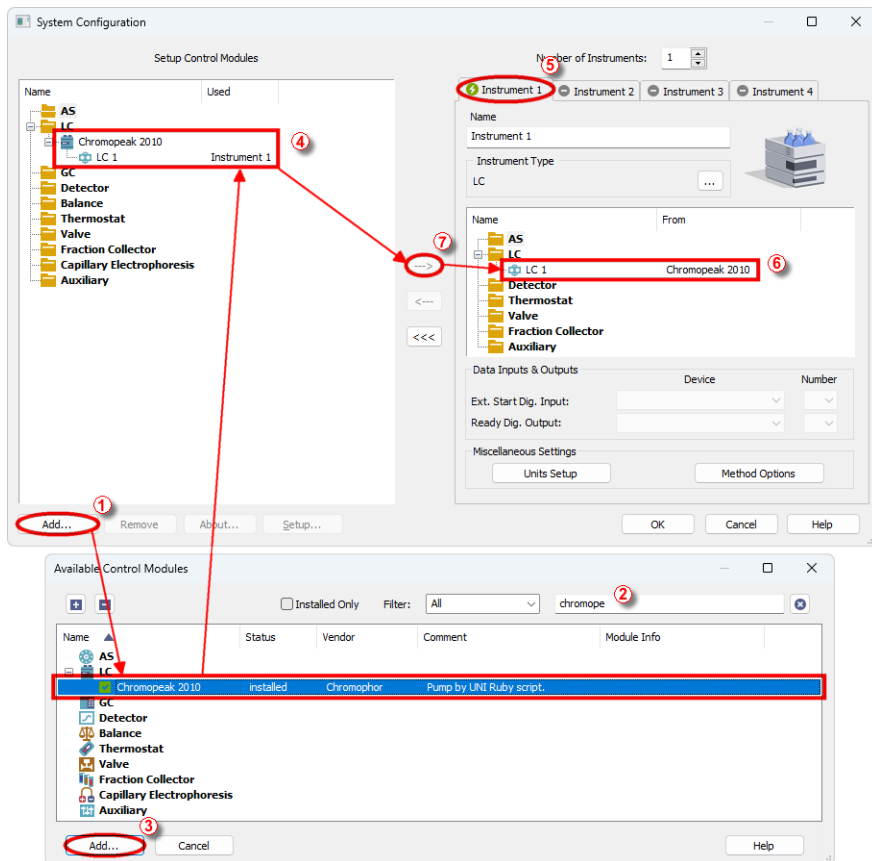

Fig. 3: How to Add Chromopeak 2010 module
- Press the **Add** button (1 on Fig. 3 on pg. 4.) to invoke the *Available Control Modules* dialog.
- You can specify the search filter (2) to simplify the finding of the driver.